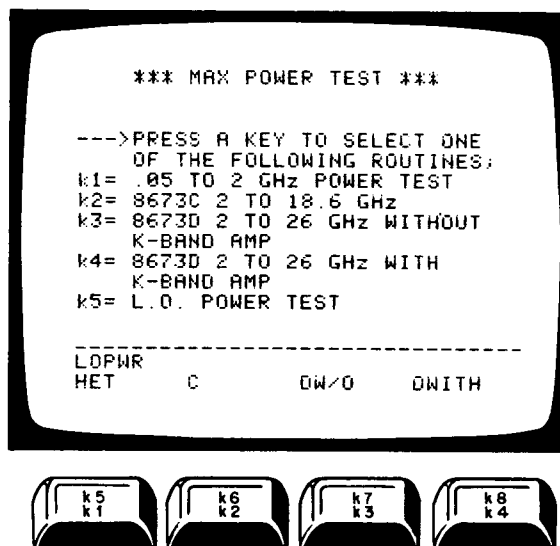

Figure 5-34. Maximum Power Menu
5. When the Utility Menu is displayed, press K1 to select the Max Power Menu. A new menu will be displayed as in Figure 5-34.